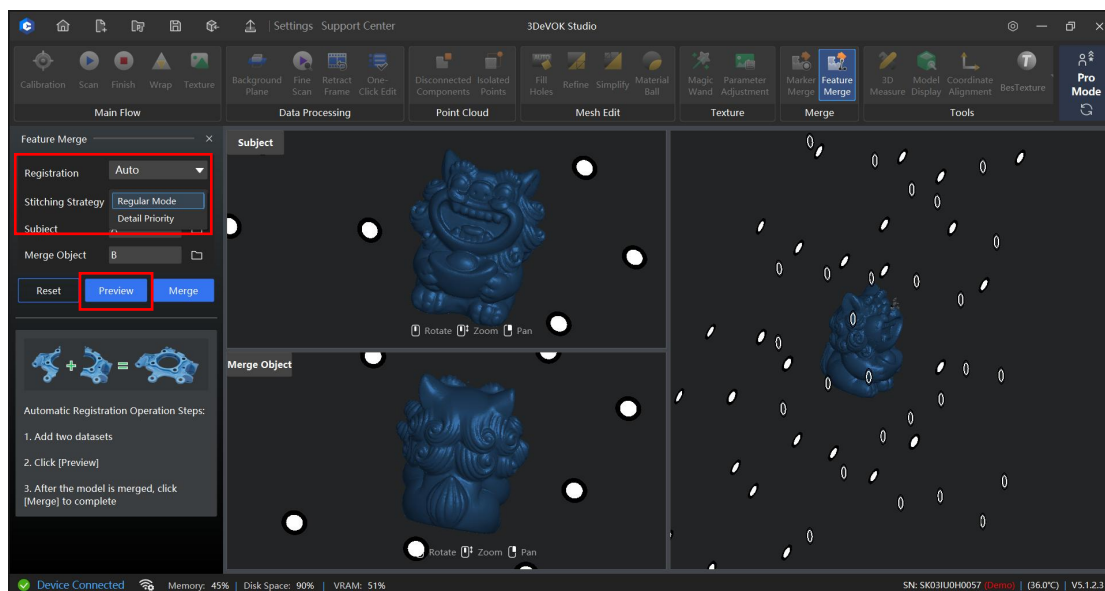

Figure 9-3 Auto Registration and Preview
4. For objects rich in geometric features, use the default "Auto" function in the "Registration Mode" section at the top-left corner of the software. For objects that requires high detail, Detail Priority function can be selected in Stitching Strategy. Click the "Preview" button to view the merge effect in the right-hand window, as shown in Figure 9-3.